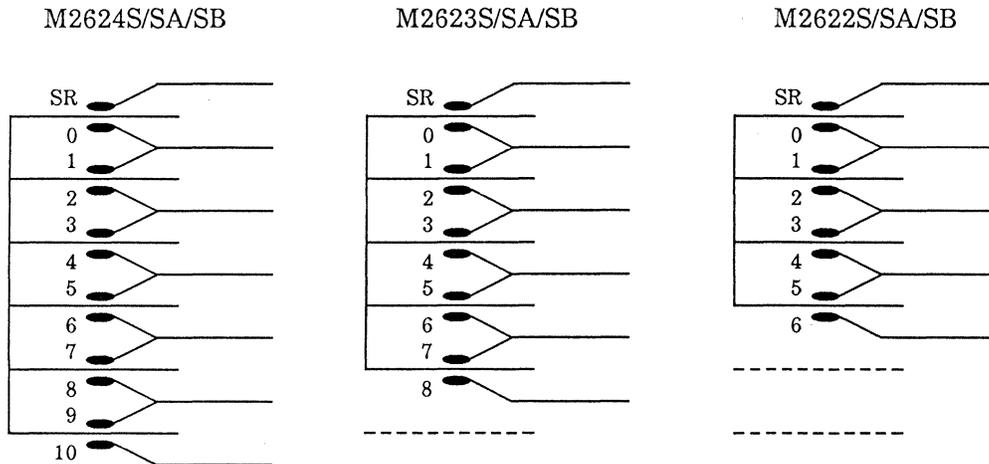

Figure 1.2 Disk/head configuration
(2) Heads
The CSS (contact start/stop) type heads are in contact with the disks when the disks are not rotating, and automatically float when the rotation is started. Figure 1.2 shows the configuration of disks and heads. The first disk has a prewritten servo pattern on its top surface (SR) for obtaining positioning control and read/write control information.